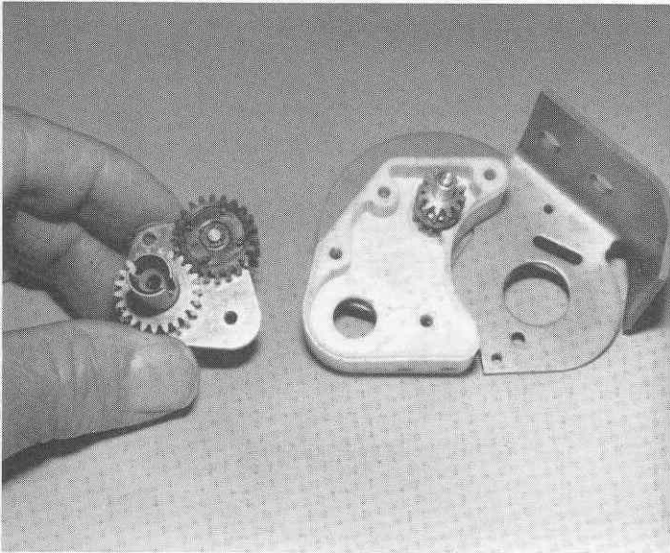

Fig. 84
□ **Fig. 84** Take the idler gear assembly.